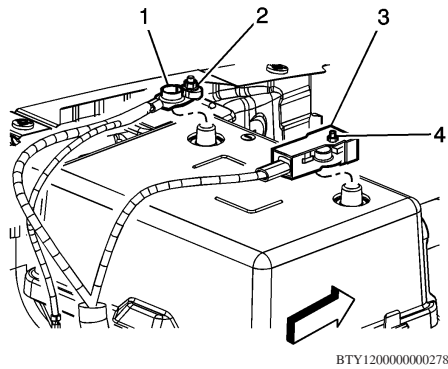

Fig. 1 Battery removal
4. Disconnect ground cable (1) from battery, **Fig. 1**.
5. Remove positive terminal cover (2), **Fig. 1**.
6. Loosen nut (3), and detach positive cable (4) from battery, **Fig. 1**.
7. Disconnect vent hose (5), **Fig. 1**.
8. Remove bolt (6), and remove bracket (7), **Fig. 1**.
9. Loosen retaining strap (8), and remove battery (G1) from trunk, **Fig. 1**.
1. Install battery, and tighten retaining strap (8), **Fig. 1**.
2. Install bracket (7), and tighten retaining bolt (6), **Fig. 1**.
3. Connect vent hose (5), **Fig. 1**.
4. Attach positive cable (4), and tighten nut (3), **Fig. 1**.
5. Install positive terminal cover (2), **Fig. 1**.
6. Connect ground cable (1) to battery, **Fig. 1**.